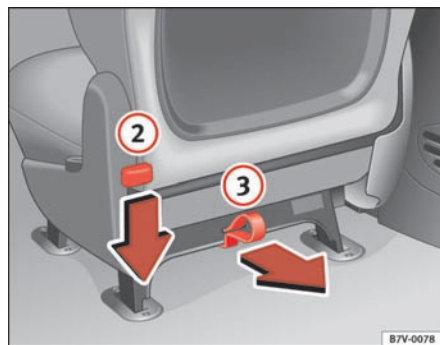

Fig. 92 Back of seat :
- Pull the release lever at the seat surface ⇒ fig. 91 ② up or press the lever on the rear side of the seat ⇒ fig. 92 ② down.
- Pull the release lever at the seating surface ⇒ fig. 91 ③ up or pull the loop on the rear side of the seat ⇒ fig. 92 ③ down.